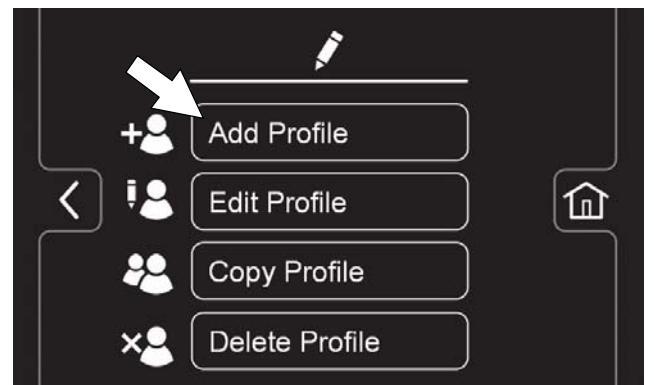

FIG. 159
- Press the Add Profile button to add a new user profile (Figure 159).